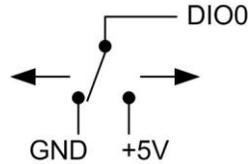

Figure 4. Schematic showing switch detection by digital channel DIO0
When you configure the digital bits for input, you can use the WLS-TC digital I/O terminals to detect the state of any TTL-level input. Refer to the schematic shown in Figure 4. If you set the switch to the +5V input, DIO0 reads *TRUE* (1). If you move the switch to GND, DIO0 reads *FALSE* (0).